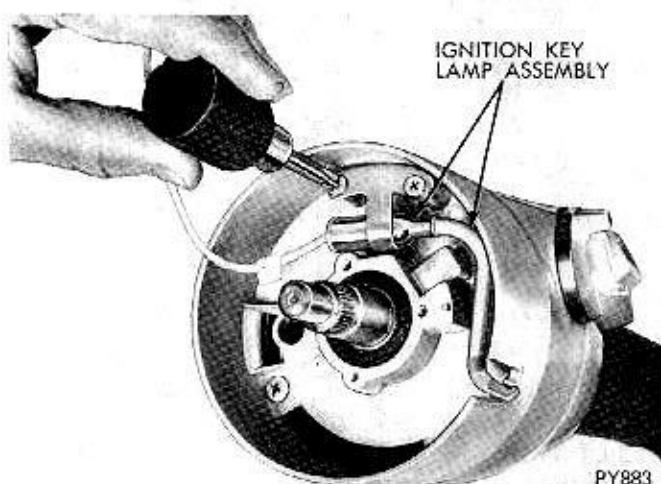

Fig. 4—Ignition Key Lamp
(6) Remove two retaining screws and lift the ignition key lamp assembly out of the way (Fig. 4).